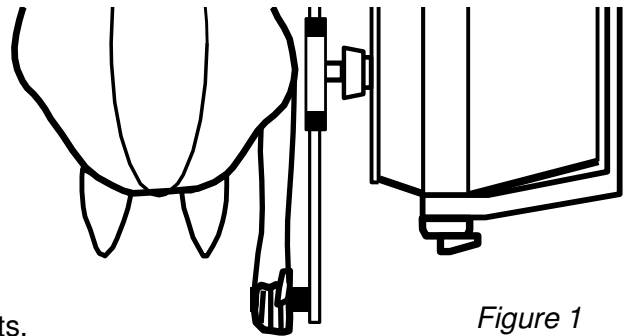

Figure 1
8. The test position is as follows: the subject should be standing with feet even in stance, flat on the floor, and shoulder width apart; shoulders should be level, adducted, and neutral with regard to rotation; the elbow being tested should be flexed at 90 degrees; the forearm should be supinated; the wrist should be in neutral (0 to 15 degrees of extension) with some radial deviation; and the hand should be placed centrally on the handle. This position should be maintained throughout testing (see Figures 1 & 2).